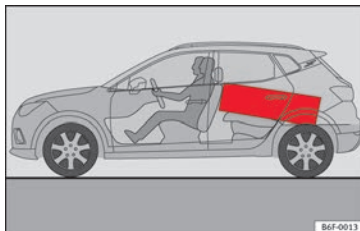

Fig. 162 Position heavy items as far forward as possible.
- Place heavy objects as far forward as possible in the luggage compartment » **Fig. 162**.